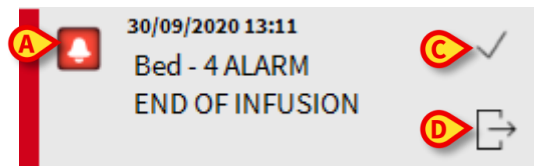

Fig 11
In the message box (Fig 11), the following information is displayed:
- An icon characterizing the message type (Medium/High/Low priority alarm - Fig 11 **A**)
- An “Ack” button. Click the button to acknowledge the corresponding notification (Fig 11 **C**)
- A “Callback” button. Click the button to access the patient station on which the notification occurred (Fig 11 **D**)